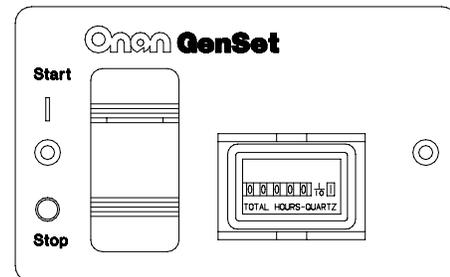

FIGURE 5. REMOTE SWITCH / HOUR METER
- Remote switch with indicator lamp and hour meter (Figure 5).